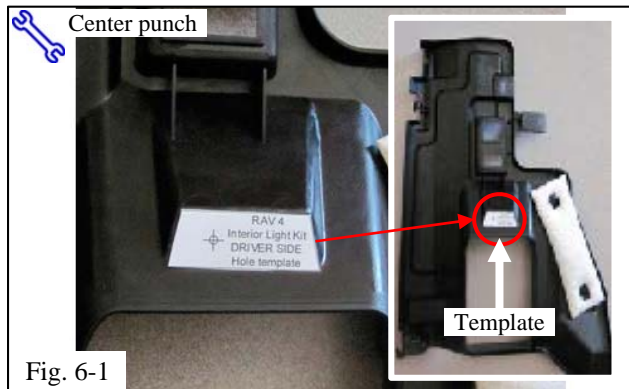

Fig. 6-1
- Orient the driver side instrument panel under panel as shown (Fig. 6-1).